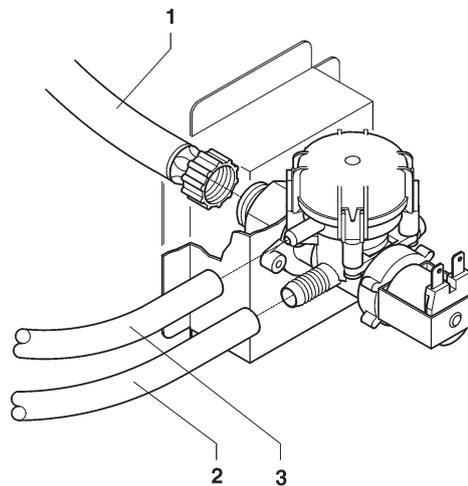

Fig. 18
Connect the water mains with the 3/4" gas fitting of the water inlet solenoid valve by means of a tube that can support the mains pressure and of a type suitable for foodstuffs (min. inner diameter 6 mm.) (see fig. 18).
The water inlet solenoid valve (see fig. 18) is complete with an overflow device that can mechanically lock the water inlet as a result of a malfunction of the solenoid valve or the water level control device in the boiler.
- loosen the fitting intended to fasten the supply tube of the solenoid valve to discharge the residual mains pressure and tighten it again (see fig. 18);